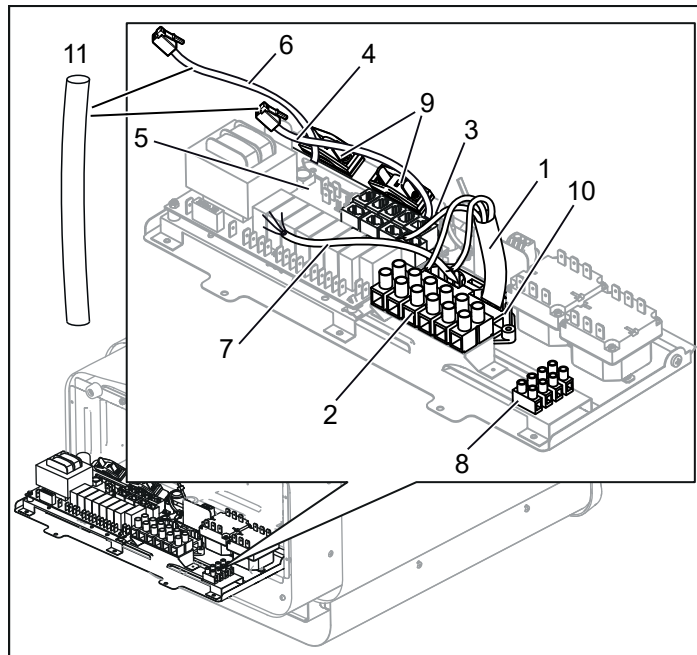
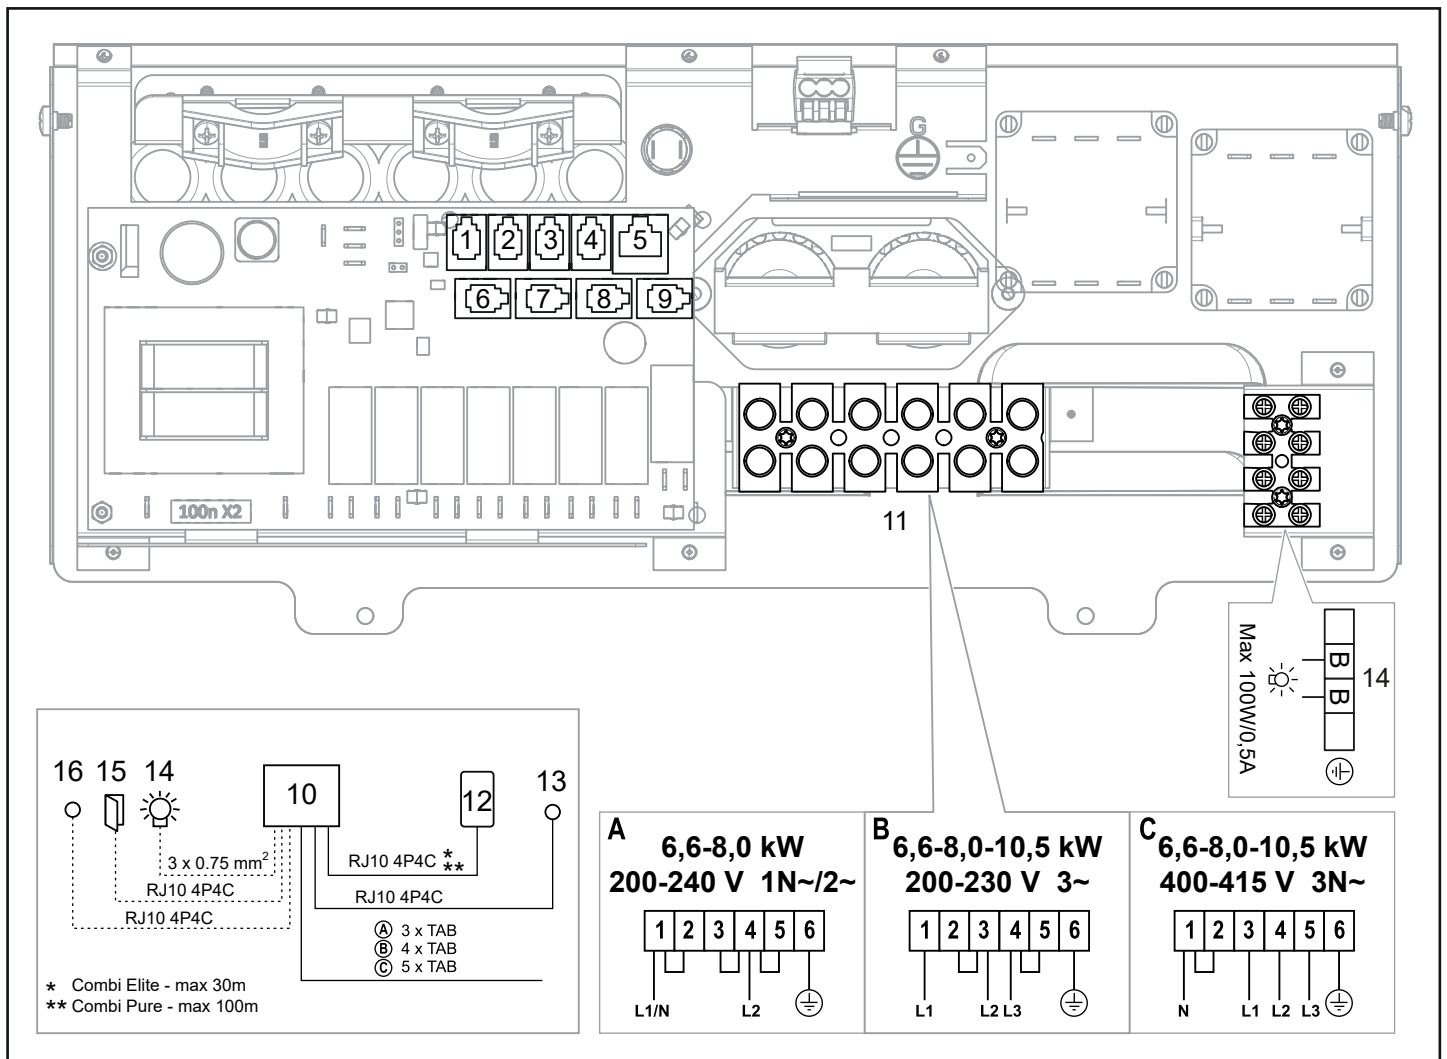

Figure 10: Circuit board
Figure 17: Wiring diagram
4. Connect the electrical cable (1) to the terminal (2) (see Figure 10) according to the wiring diagram (see the Connection/wiring diagram section, page 15).
5. Run the cables for the control panel and the temperature sensor through the cable grommets (3). Connect the control panel cable (4) to one of the four RS485 contacts (positions 6-9) (see Figure 10) according to the wiring diagram (see the Connection/wiring diagram section, page 15).
6. **Combi Pure:** Connect the sensor cable (6) to the NTC contact on the circuit board (position 1) (5) according to the wiring diagram (see the Connection/wiring diagram section, page 15).
**Combi Elite:** Connect the humidity- and temperature sensors cable (6) to one of the four RS485 contacts (positions 6-9) (5) according to the wiring diagram (see the Connection/wiring diagram section, page 15).
7. Connect the light cable (if relevant) (7), see Figure 10, to the terminal (8) according to the wiring diagram Figure 17.
Contact Tylö Customer Service before connecting to voltages or numbers of phases that are not listed in the wiring diagram Figure 17.